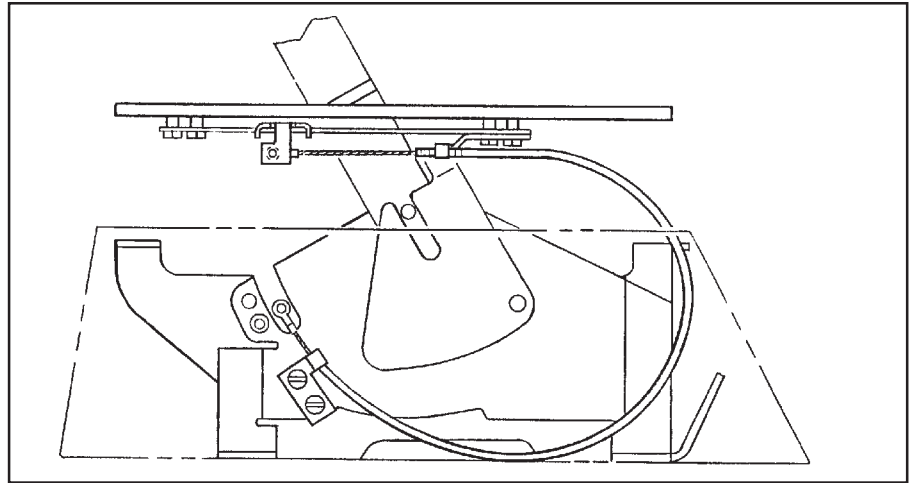

Figure 10
**STEP 30.** Snap the shift position window into the cover plate. The window snaps in from the top with tabs inserting into slots at either end of the window opening. Place the shifter in the Park position then remove the T-Handle from shifter. Place the cover plate over the stick and onto the top of the tower. Route the indicator cable as shown in **Figure 10**. (If the cable is not routed this way, the indicator may bind.) Run the shifter through all of the gears to check the operation of the indicator. If the indicator needs adjustment, loosen the screws holding the indicator cable clamp to the cover plate and slide the cable bracket to adjust the indicator position. (Retighten these screws carefully since they are threaded into plastic.) Attach the cover plate to the tower with four Phillips head screws.